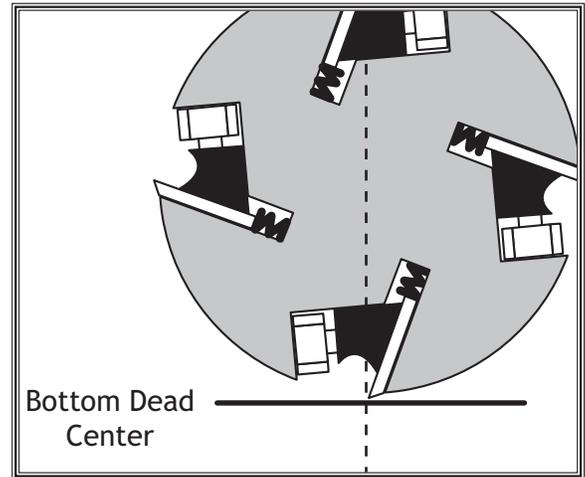

Figure 28. Knife edge at bottom dead center.
*BDC = Bottom Dead Center (see Figure 28).